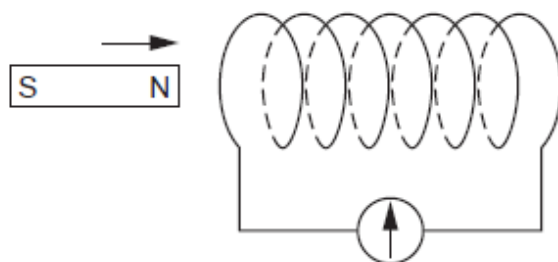

Fig. 8.1
- 8 (a) In Fig. 8.1, a magnet is moving towards one end of a solenoid connected to a sensitive centre-zero meter. During this movement a current is induced in the solenoid.
Suggest **three** possible changes to the system in Fig. 8.1 that would increase the induced current.